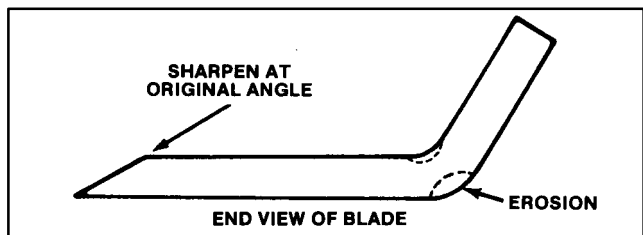

Figure 16
Check cutter blade every time rider is tipped on end. If bolt holding blade is loose, tighten it to 45–60 ft-lb. If blade or sail (Fig. 16) at end of blade is worn, eroded, or cracked, replace the blade. Replace the blade if it is bent or out-of-balance. Always use genuine TORO replacement blade to ensure safety and best performance. **NEVER USE WILL-FIT REPLACEMENT BLADE.**
7. Using a file, sharpen cutting edge at both ends of the blade (Fig. 16).